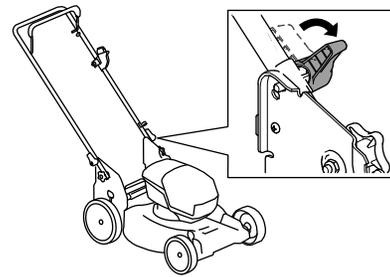

Figure 14
3. Disengage the handle locks (Figure 14).